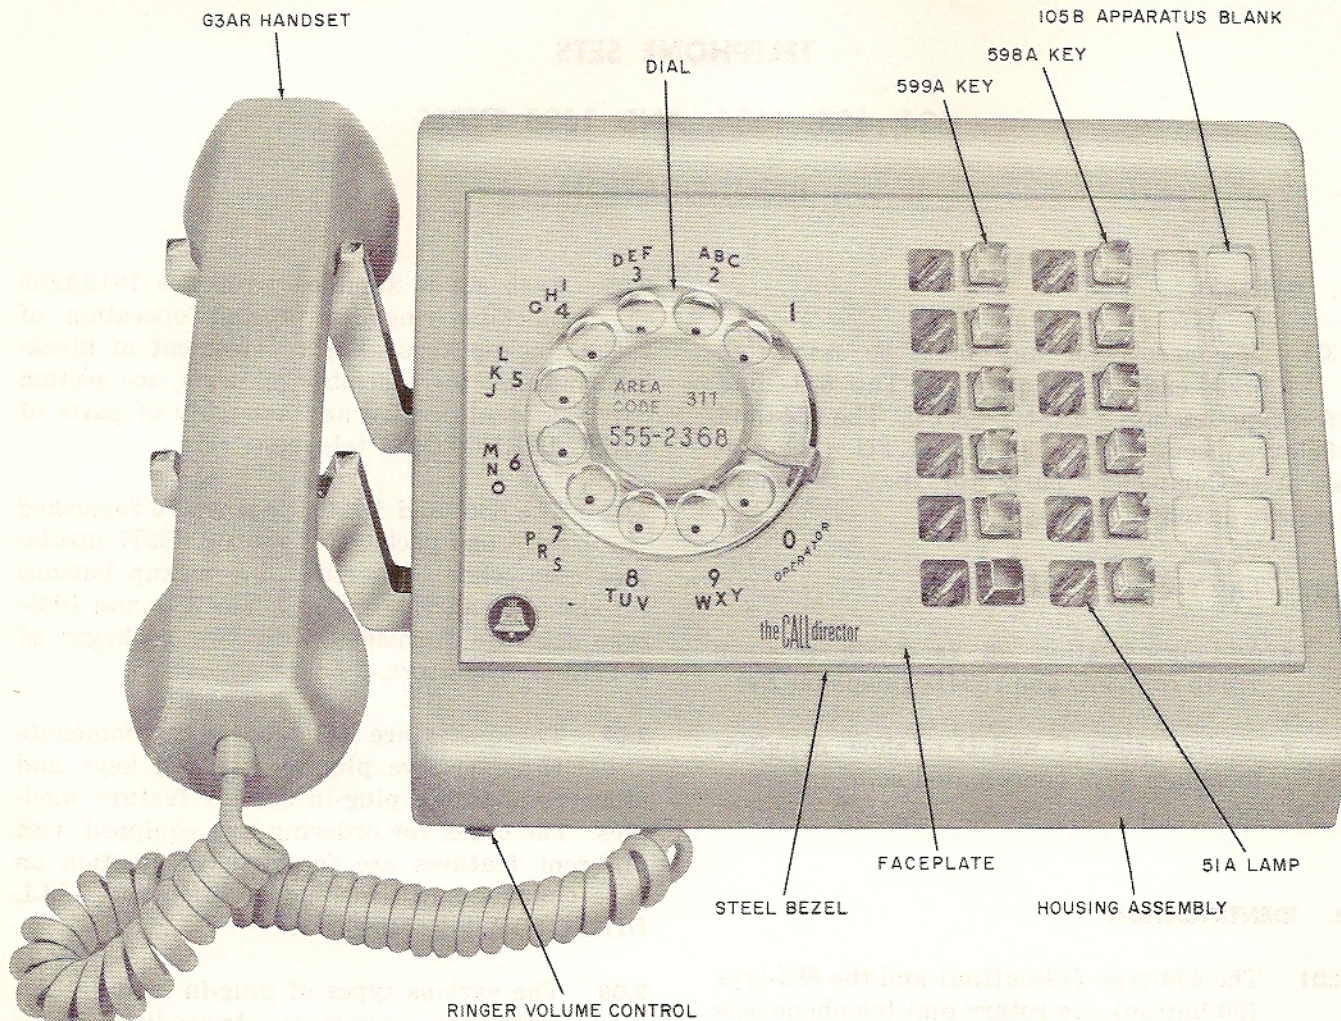

Fig. 1 — 634-Type Telephone Set
2.01 The 634-type (18-button) and the 635-type (30-button) are rotary dial telephone sets (Fig. 1 and 2). The 1634- and 1635-type sets have TOUCH-TONE® dials (Fig. 3 and 4).